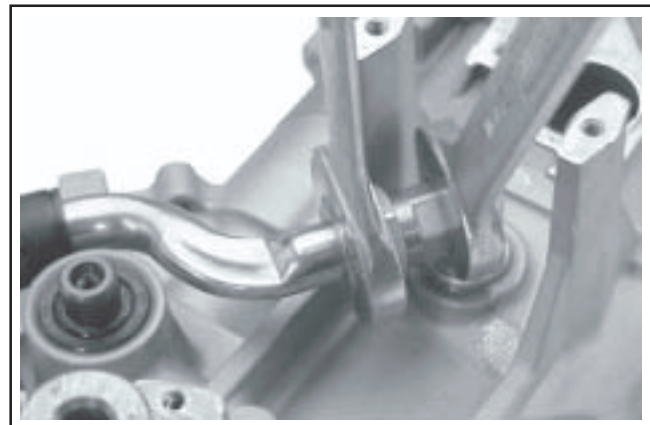

Figure 9-47. Loosening Hex. Cap Section of Fitting.
- Loosen and unscrew the hex. cap section securing the transfer tube to the 90° fitting in the crankcase. See Figure 9-47. Support the fitting with a wrench, when loosening the hex. cap section.